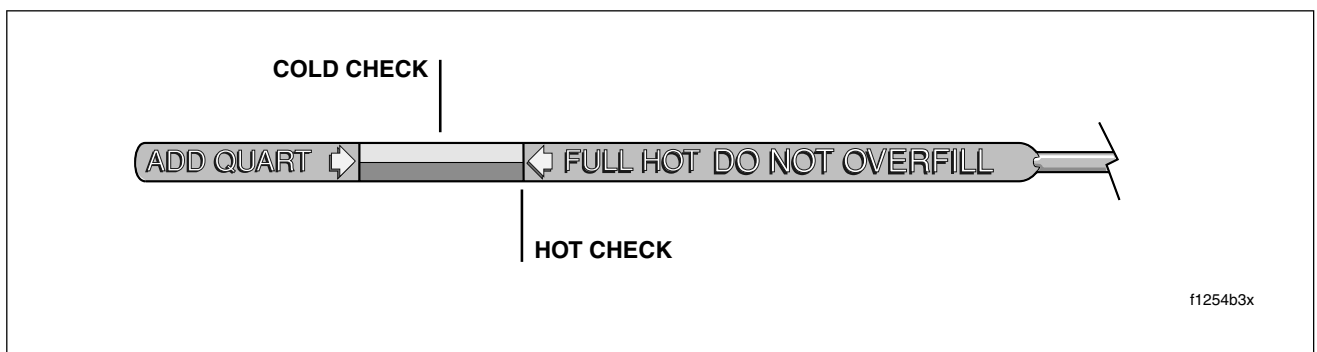

Figure 3-1. Engine Oil Dipstick
- b. Remove the dipstick and note the level of the oil. Oil level should register between the two arrows on the dipstick. See Figure 3-1. If oil level is at or below the lower arrow, add only enough oil to bring the level between the two arrows on the dipstick.
- d. Remove the dipstick and note the level of the oil. Add only enough oil to bring the level to the FULL mark on the dipstick. See Figure 3-1. Do not overfill.